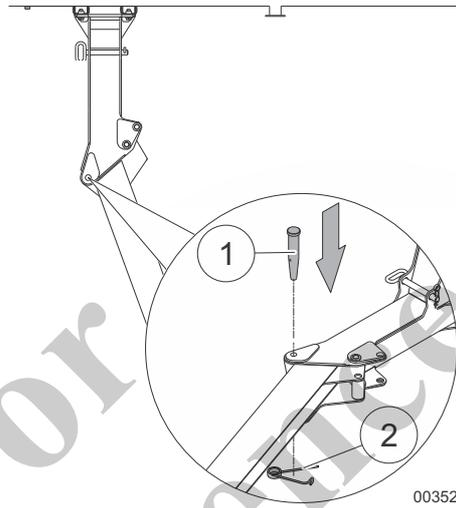

Fig. 194 Bolting the ramp
- 13 Insert and secure the bolt (1) in Fig. 194 on the ramp and secure it with the retaining spring (2) in Fig. 194.